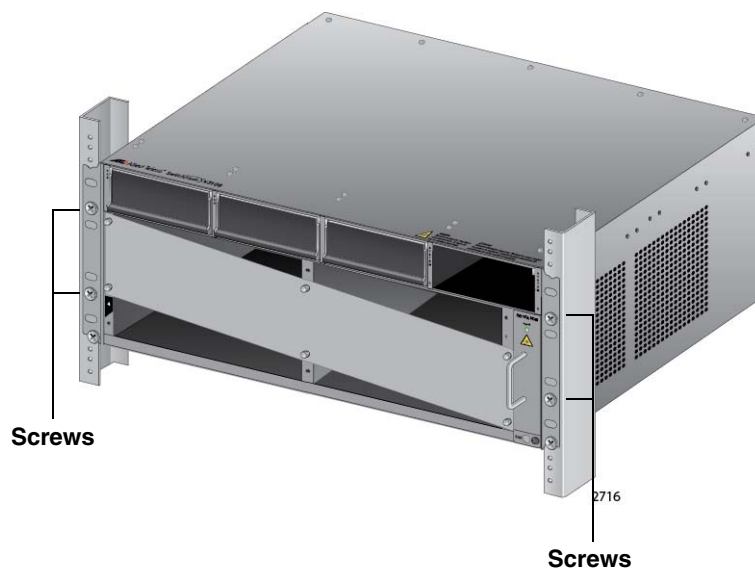

Figure 47. Installing the Rack Mount Screws
4. Install four rack mount screws (not provided) to secure the chassis to the equipment rack, as shown in Figure 47.